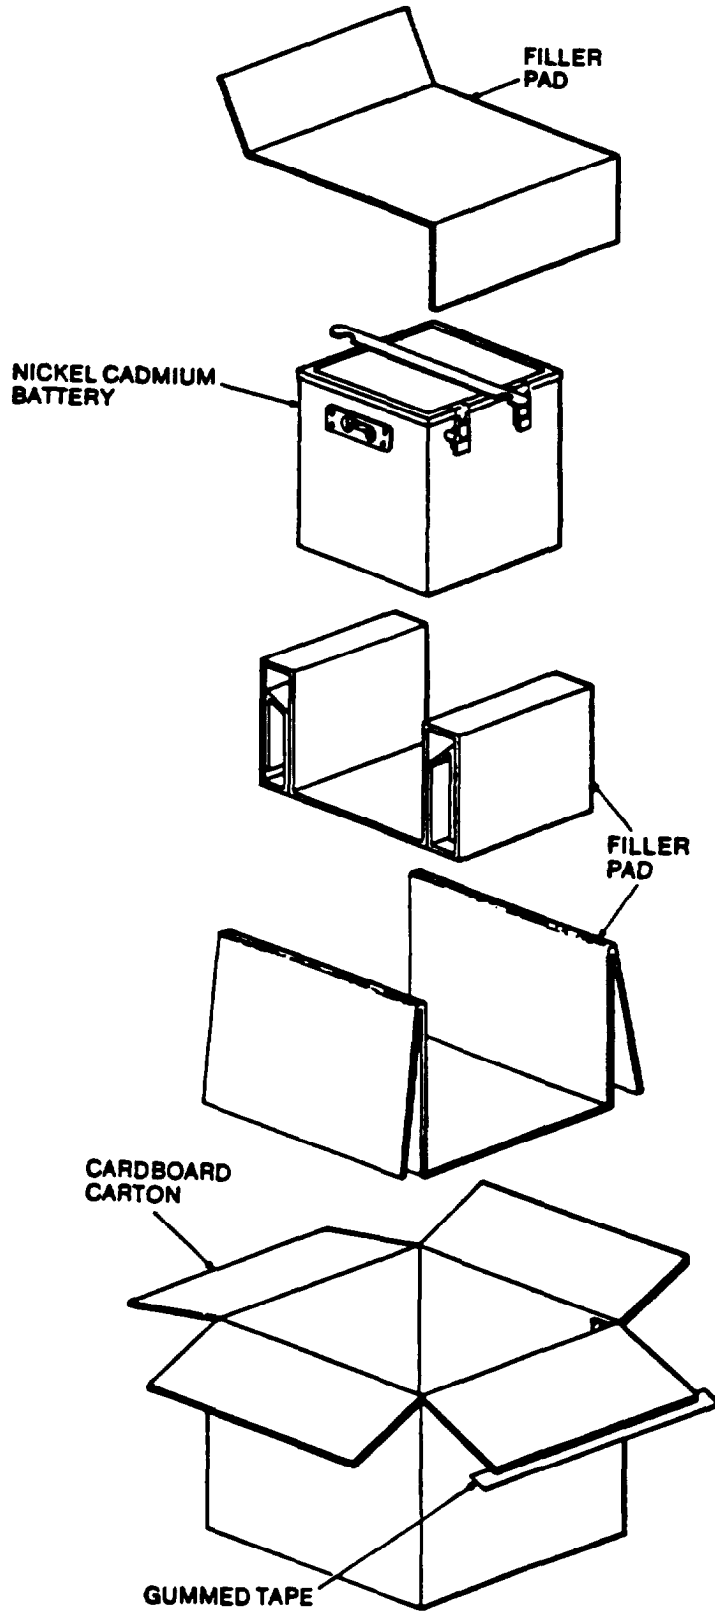

Figure 3-30. Typical Nickel-Cadmium Battery Packaging (Single).
(1) Singly In a cardboard carton with fill pads (fig. 3-30). (When packed for export, wooden blocks are inserted in the filler pads.)
- e. Pack battery in original packing material. See to figures 3-30 and 3-31.